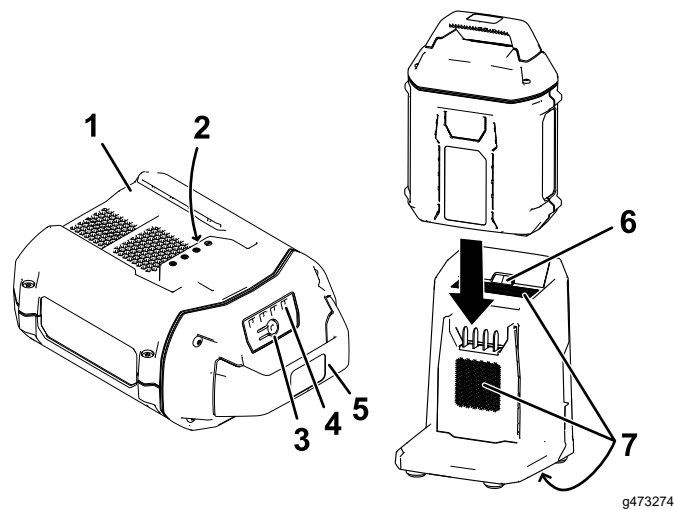

Figure 19
2. Line up the cavity in the battery pack (Figure 19) with the tongue on the charger.
3. Slide the battery pack into the charger until it is fully seated (Figure 19).